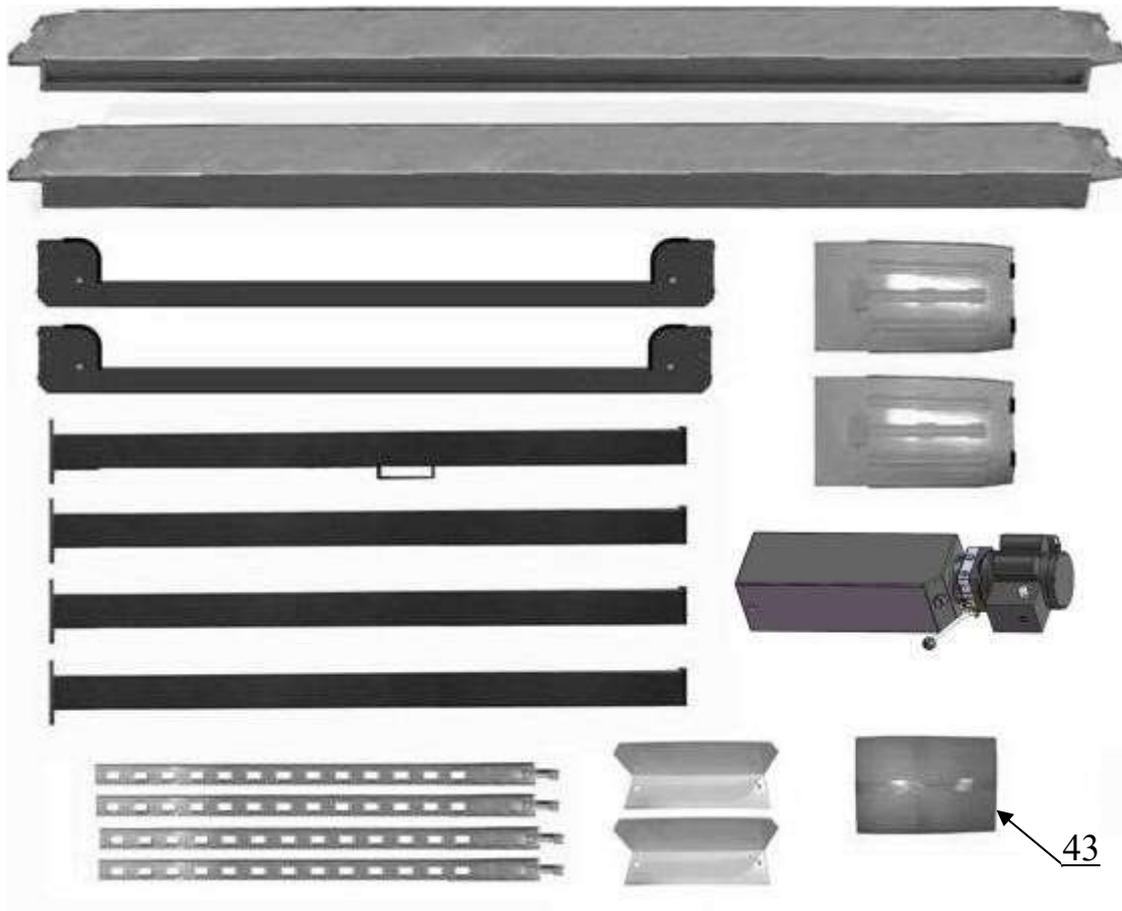

Fig.9
6. Move aside the parts and check the parts according to the shipment parts list (See Fig. 9).